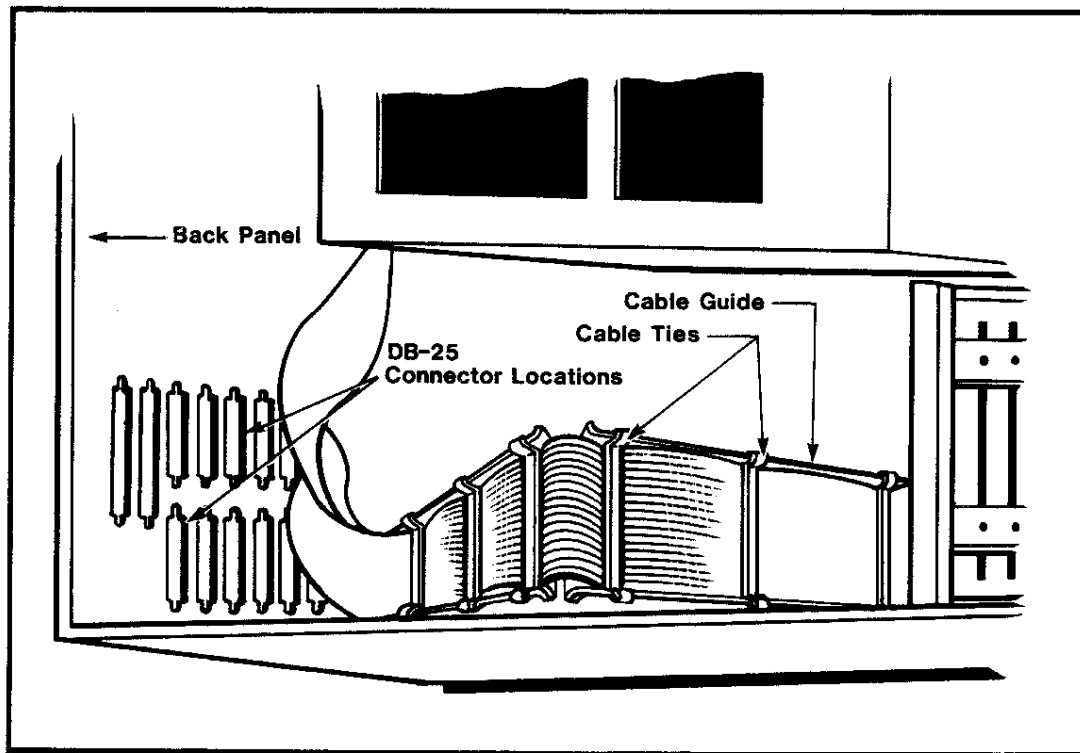

Figure B-3: THE CABLE GUIDE
- e. Cut the cable ties on the cable guide (Figure B-3). Lay the new cable on the guide. Slide the card cage in and out several times to ensure that the cables don't bind. Once the cables are properly positioned secure them with new cable ties.